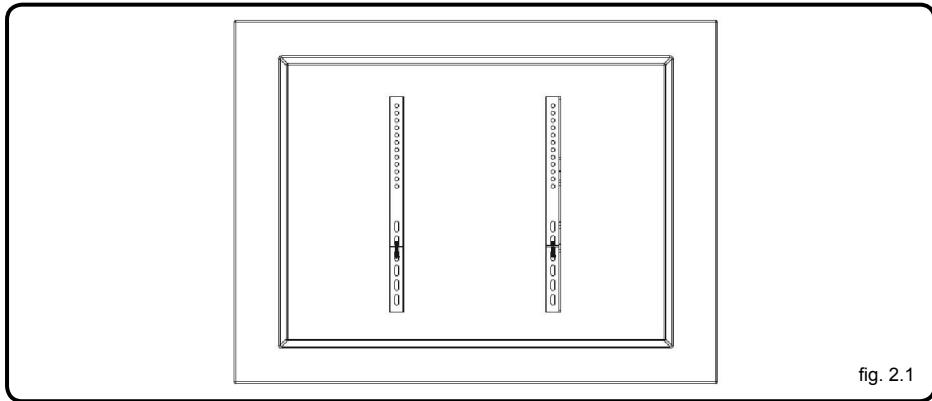

fig. 2.1
- Place the display on its screen, put the adapter brackets on the back of the display and align them with the holes as shown in fig. 2.1.